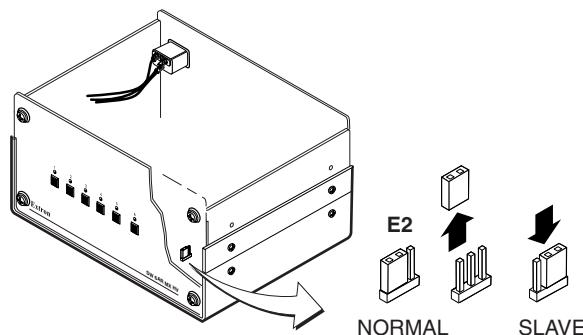

Figure 29 — Circuit board jumper location
3. Locate jumper E2 (figure 29). A jumper shunt is on pins 1 and 2.